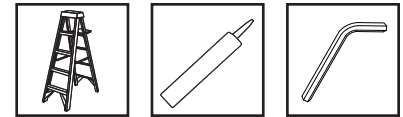

Fig. 19
- With the help of two assistants, lift the Top Channel up and over Roto, Yoke and OV (Figure 19).